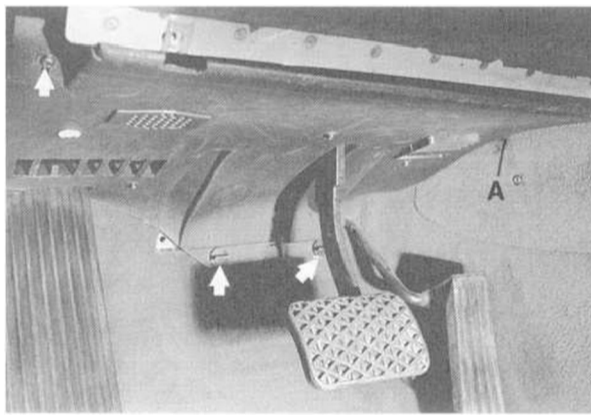

Fig. 13. Pedal cluster trim panel retaining clips (turn 90° to release) and mounting screw (arrows). Retaining hook is located at A
2. Remove pedal cluster trim panel mounting screw and retainers. See Fig. 13.